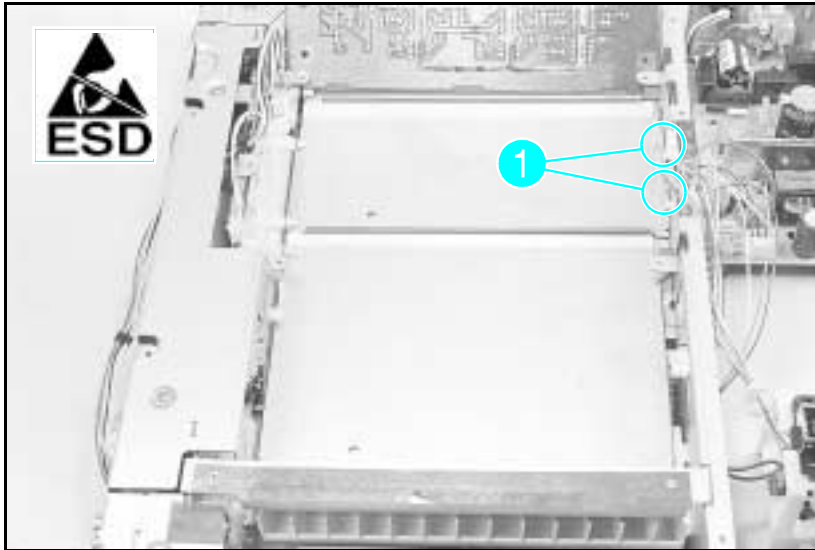

Figure A-19 Plate on Power PCA Side of Duplexer
- 2** Remove the (2) screws from the plate located on the power PCA side of the duplexer (see Figure A-19, callout 1).